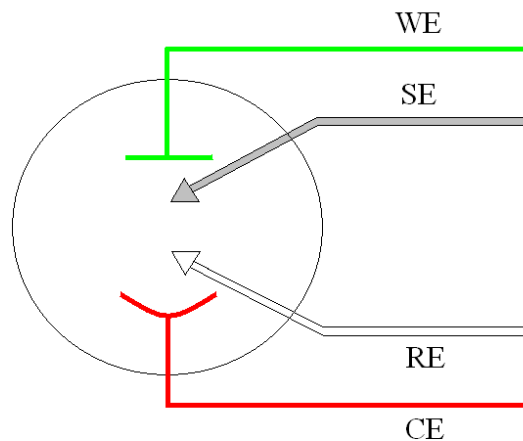

Figure 8. Four-Electrode Connection
c) There are some applications for which a four-terminal (Figure 8) connection is required. In this case, the potential between the reference and sense are controlled and measured. This can be a 4-terminal connection to a low impedance battery or capacitor, or the Sense electrode can be an additional reference electrode (for instance, in controlling the potential across a membrane in a H-cell setup).